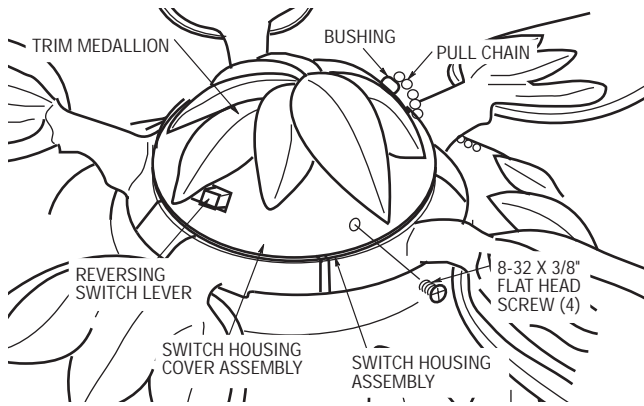

Figure 31
- 5. Slip the pull chain through the bushing in the switch housing cover assembly (Figure 31). Position the cover assembly on the switch housing assembly with the reversing switch lever positioned in the slot provided. Secure the cover assembly to the switch housing assembly using four 8-32 x 3/8" flat head screws (provided).